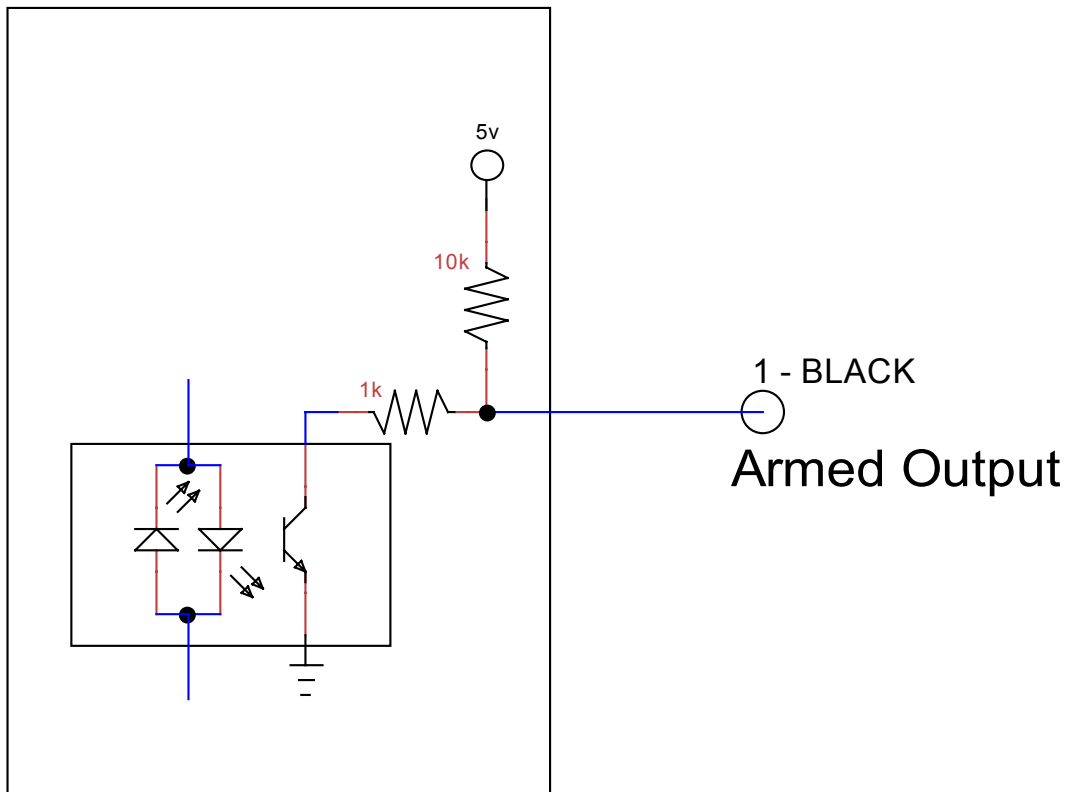

Figure B5. Armed output circuit
- See Appendix B for a schematic of the armed output circuit (Figure B5)
Figure B5 shows the armed output circuitry that you can use to monitor the state of the RibEye.